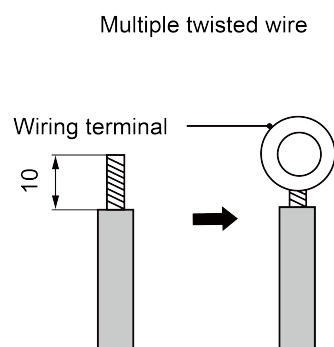

Fig.4.19
(2) The connection of stranded wire (as shown in Fig.4.19)